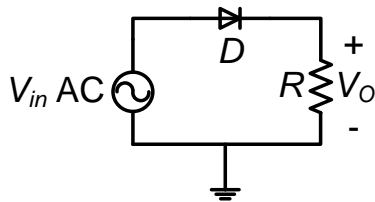
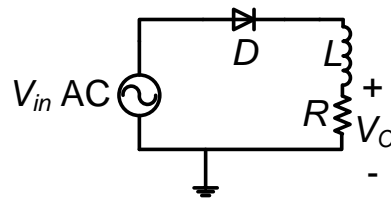

Fig. 1. Half-wave rectifier with resistive load
Fig. 2. Half-wave rectifier with R-L load
ATTENTION: During this experiment, do not touch any part of the circuit while energized. The AC source is only grounded as shown in Figures 1 and 2 when the function generator is a source. Do NOT ground the VARIAC.
- 2.1.2 On the proto board, build the circuit shown in Fig. 1. The diode (D) is 2A01G-T rated for 50V and 2A while the load resistor (R) is 51Ω .
- 2.2.1 Using the same circuit in Fig. 1, connect a 4.7mH inductor (L) in **series** with the resistive load as shown in Fig. 2.
- 2.3.2 Using the same circuit from Fig. 1, i.e. with the inductor disconnected and the resistor being the only load, connect the VARIAC output using the plug-banana cable.